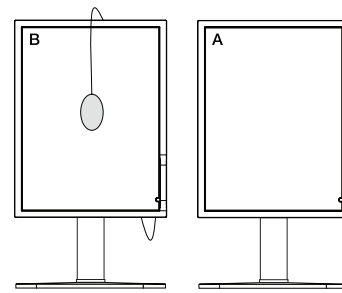

Figure C.2
- Remove the USB optical sensor from source Display A and place in the center of Display B (Figure C.2).